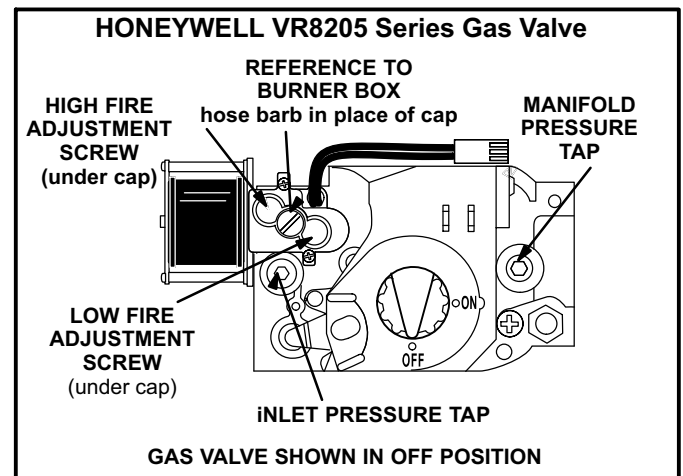

FIGURE 44
Gas Valve Operation (Figures 44 and 45)
- 6 - *Honeywell VR8205 Gas Valve* - Turn knob on gas valve clockwise ➡ to **OFF**. Do not force. See figure 44.
When testing supply gas pressure, connect test gauge to inlet pressure tap on the gas valve. See figures 44 and 45. Check gas line pressure with unit firing at maximum rate. Low pressure may result in erratic operation or under-fire. High pressure can result in permanent damage to gas valve or overfire. See table 36 for operating pressure at unit gas connection (line).